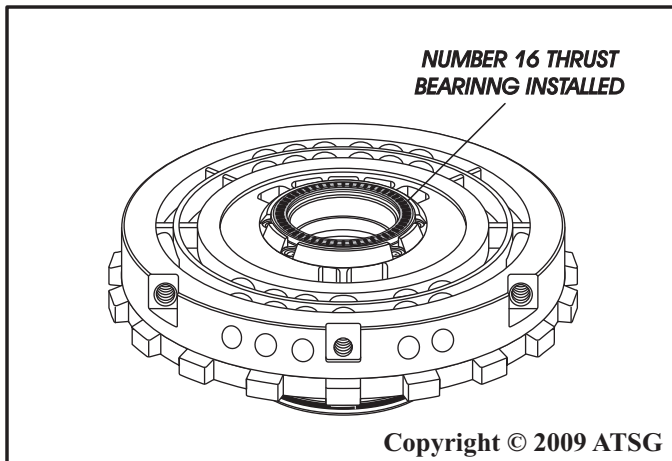

Figure 194
17. Ensure that the number 16 thrust bearing is still stuck to the pre-assembled drum support, as shown in Figure 194.